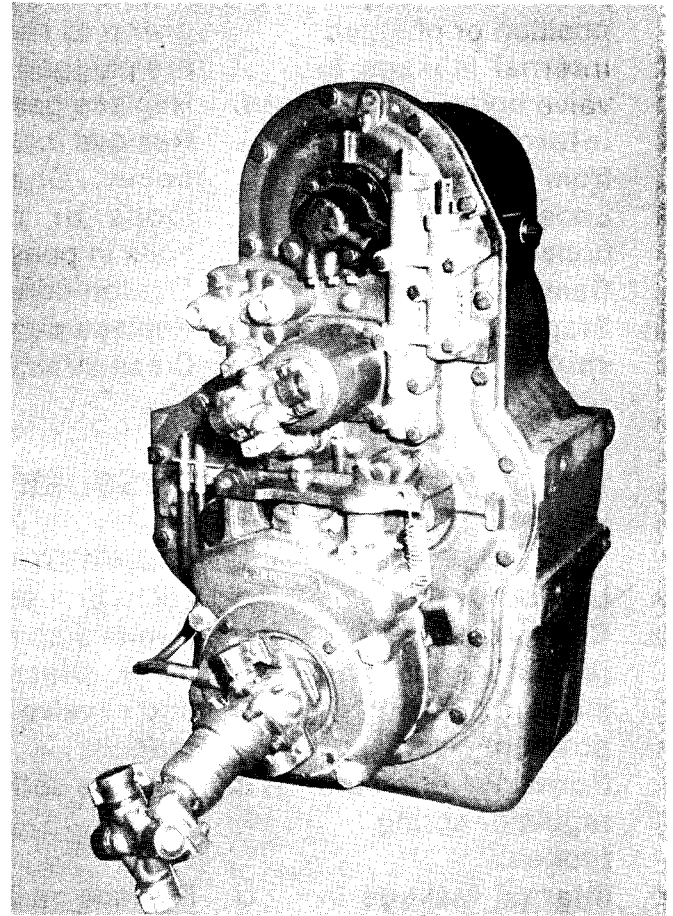

Figure 1
2. Remove all drive lines, yokes, flanges and u-joints. (Figure 1)
3. Remove front and rear brake assembly. (Figure 1)
11. Remove 6 capscrews (G-5) and lockwashers (G-6) to release the regulator valve body (G-2) and gasket (G-1) from the main cover (M-1) (Figure 1).